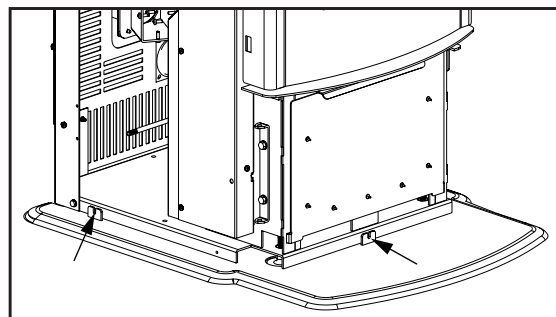

Figure 17: Mini Bern Hearth Pad in Place.
5. Loosen the three (3) T-20 screws from the base of the unit (see Figure 17).